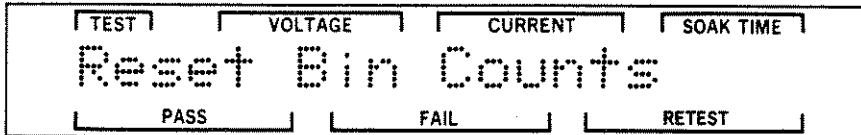

Figure 3-71. Reset Bin Count Totals Screen
STEP 2. Press the RIGHT pushbutton to enter the Detail screens. Press the UP or DOWN pushbutton until the Reset Bin Count Totals screen is displayed. Refer to Figure 3-71.